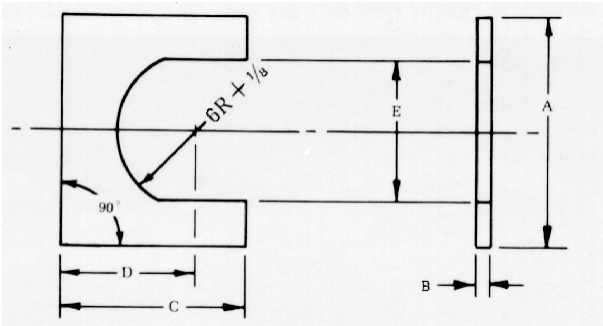

Figure 5 Motor U-plate
- One correctly sized motor U-plate (see Figure 5, Page 21 and Table 4, Page 21)